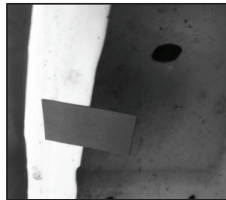

Figure 5
4. Remove the white backing from the black tabs and install half over the grease pencil mark as shown in Figure 5 and fold the remaining part of the black tab over the fender lip as shown in Figure 6.